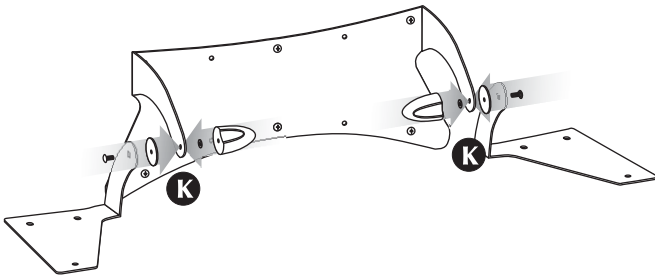

Figure 14. Attach the brackets to the stand.
- 12 Starting with 1 bracket, place a carriage bolt through the protruding arm of the bracket (not the piece installed on the wall). The bolt should face away from the brackets large, flat shelf. Place a large rubber washer on the bolt, so that it is between the bracket and the stand. Push the bolt through the protruding stand arm so that the bolt points toward the center of the stand. Place a small plastic washer over the bolt and thread on to the large knob. Hand tighten so that the bolt is flush with the metal and repeat this step for the other side. Make certain the brackets stick out like wings and are parallel to the floor. Tighten each large knob (figure 14, step K).